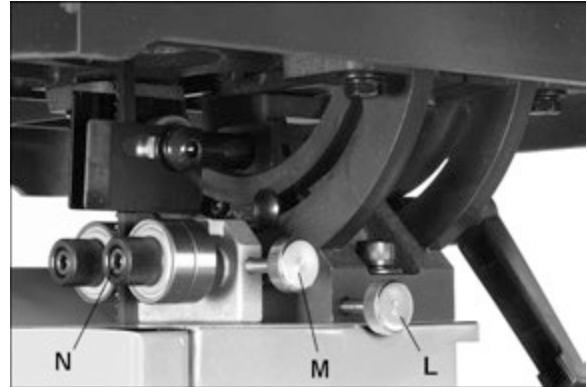

Figure 27 (Blade guard removed for clarity; install lower blade guard before operating)
Refer to Figures 27 and 28.
*Movement summary:* Loosen lock knob (L) to move guide bracket. Loosen lock knob (M) to rotate side bearing, using knurled knob (N). Loosen lock ring (O, Figure 27) and rotate knob (P) to adjust thrust bearing in relation to blade.